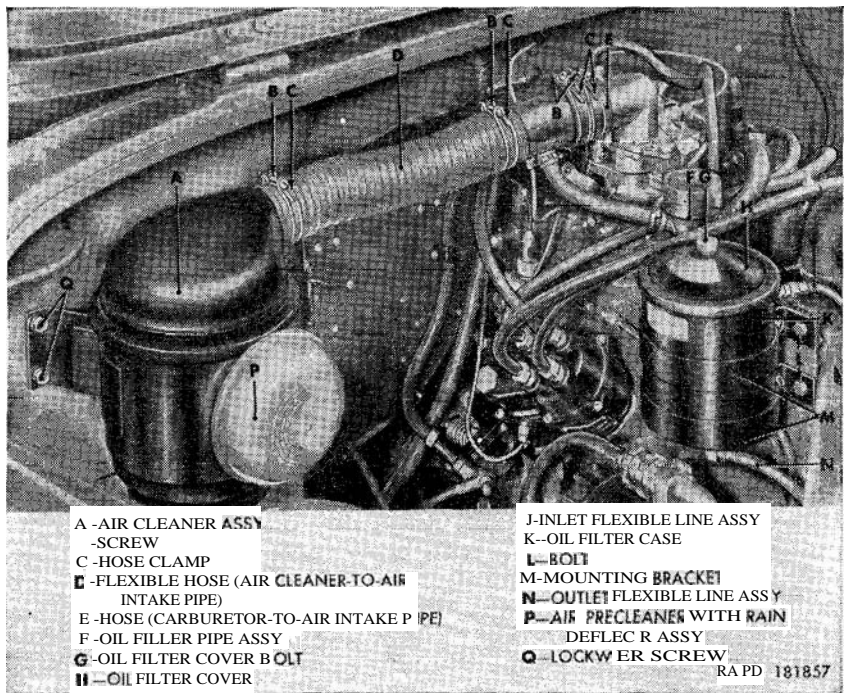

Figure 66. Air cleaner and oil filter assemblies—installed.
- (1) Install the vent line elbow (B) and the fuel line elbow (C) in a new carburetor assembly.
- (2) Position the insulator (F) on the studs in the cylinder head. Position the carburetor assembly (W) on the studs and into the air intake pipe hose and secure with two  $\frac{3}{8}$ -inch nuts (G).
- (3) Slide the choke control assembly (P) through the choke control conduit clamp (Q) and into the choke valve lever pivot (U). Push the choke valve lever (T) forward as far as possible and tighten the set screw (V). Tighten the bolt (R) in the choke control conduit clamp (Q).
- (4) Slide the throttle rod (L) end through the throttle valve lever (K) hole and secure with a  $4 \times \frac{1}{2}$  cotter pin.
- (5) Position the throttle control conduit clamp on the carburetor and secure with two No. 10 x  $\frac{5}{16}$  screws and lockwashers.
- (6) Install the vent line (A) on the elbow (B) and the fuel line (E) on the elbow (C). Tighten the screw in the hose clamp (C, fig. 66) at the carburetor.
- (7) Adjust the carburetor (*a* above) and check all controls for proper operation.
*(1) Removal.*
- (a) Loosen the screw (B, fig. 66) in the hose clamp (C, fig. 66) at the carburetor, and slide the hose (E, fig. 66) off the carburetor assembly.
- (b) Unscrew the nut on the vent line (A) end from the vent line elbow (B). Unscrew the nut on the fuel line (E) end from the fuel line elbow (C).
- (c) Unscrew the two nuts (G) from the studs. Raise the carburetor assembly (W) to clear the studs and remove the throttle valve body-to-manifold insulator (F). Discard insulator.
*(2) Installation.*
- (a) Install a new throttle valve body-to-manifold insulator (F) over the studs in the cylinder head.
- (b) Install the carburetor assembly (W) over the studs and into the air intake pipe hose and tighten the screw (B, fig. 66) in the hose clamp (C, fig. 66). Screw the two  $\frac{3}{8}$ -inch nuts (G) on the studs and tighten evenly.
(fig. 66)